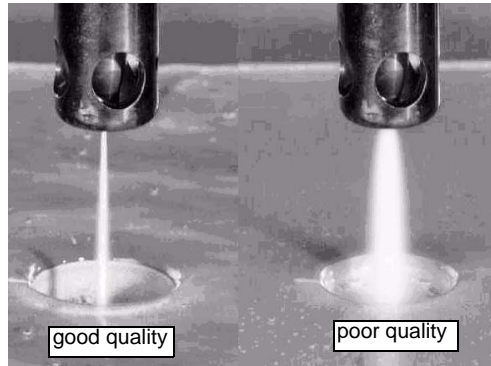

Figure 4-20: Example of Both Good and Poor Quality Jet Streams
- c. When the jet stream begins, pinch the **abrasive feed tube** until blocked to examine the quality of the jet stream, verifying that it's straight and narrow as illustrated in Figure 4-20.